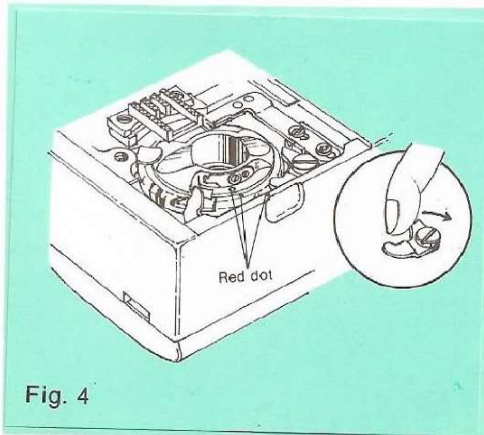

Fig. 4
6. Replace bobbin case realigning the three red dots. Move hook back to original position holding case in place. Fig. 4.